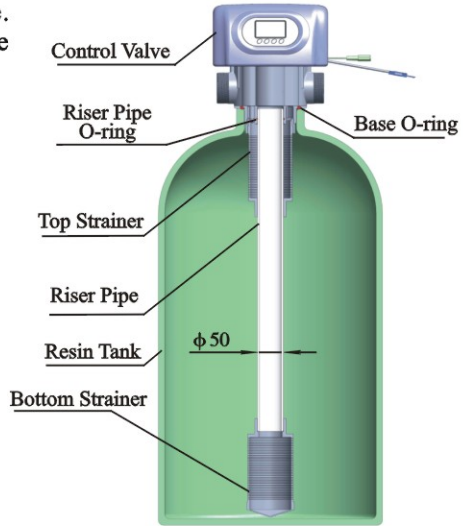

Figure 1-1
- ①The softener should be located close to drain.
- ②Ensure the unit is installed in enough space for operating and maintenance.
- ③Brine tank need to be close to softener.
- ④The unit should be kept away the heater, and not be exposed outdoor. Sunshine or rain will cause the system damage.
- ⑤Please avoid to install the system in one Acid/Alkaline, Magnetic or strong vibration circumstance, because above factors will cause the system disorder.
- ⑥Do not install the filter or softener, drain pipeline in circumstance which temperature may drop below 5°C, or above 50°C.
- ⑦One place is recommended to install the system which cause the minimum loss in case of water leaking.
①Install control valve
a. As the Figure 1-1 shows, select the riser pipe with 50 mm OD, glue the riser pipe to the bottom strainer and put it into the mineral tank, cut off the exceeding tube out of tank top opening. Plug the riser tube in case of mineral entering.